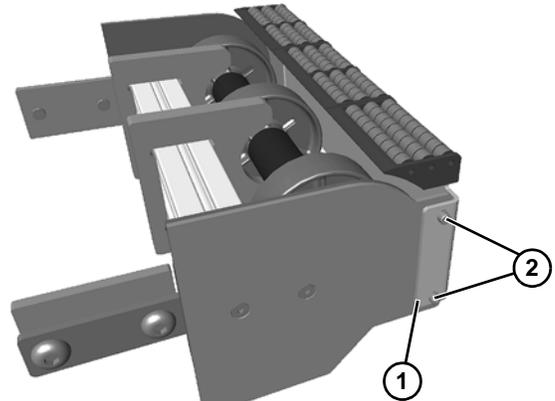

Figure 89
4. Remove two socket head screws (Figure 89, item 1) on each side of idler tail assembly (Figure 89, item 2).